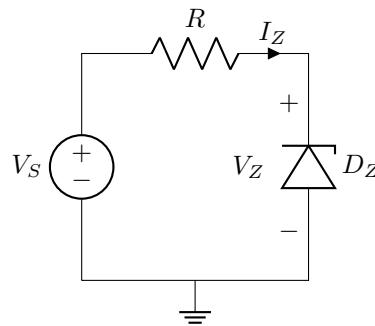

Figure 3: Zener diode characteristic measurement circuit. The Zener diode is reverse-biased with the cathode toward the positive supply.
You will now investigate the voltage regulation properties of a Zener diode operating in its breakdown region. Construct the circuit shown in Figure 3 using your Zener diode and a  $100\ \Omega$  resistor. Pay careful attention to the polarity: for the Zener to operate in breakdown, its cathode (the marked end) must be connected toward the positive terminal of the supply through the resistor, and its anode must be connected to ground. This is the reverse of normal diode operation.
4. For the Zener circuit in Figure 3, assume  $V_S = 10$  V,  $R = 100 \Omega$ , and  $V_Z = 5.1$  V (and assume this voltage remains constant in breakdown). Calculate (a) the current through the Zener diode, (b) the power dissipated by the Zener diode, and (c) determine whether this exceeds a 1 W power rating. Show all work.
5. Explain in your own words the difference between static (DC) resistance and dynamic (small-signal) resistance of a diode. Write the mathematical expression for calculating each type of resistance.